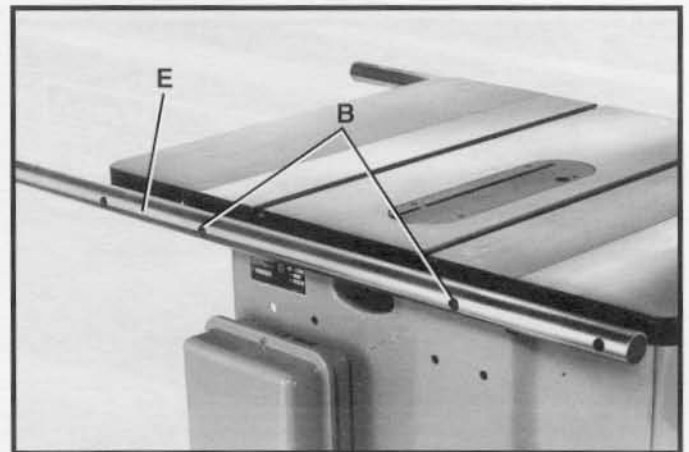

Fig. 15
3. The rear guide rail (E) Fig. 15, is assembled to the table in the same manner, with the exception that the special screws that fasten the guide rail to the table are threaded into the two tapped holes in the rear of the table.